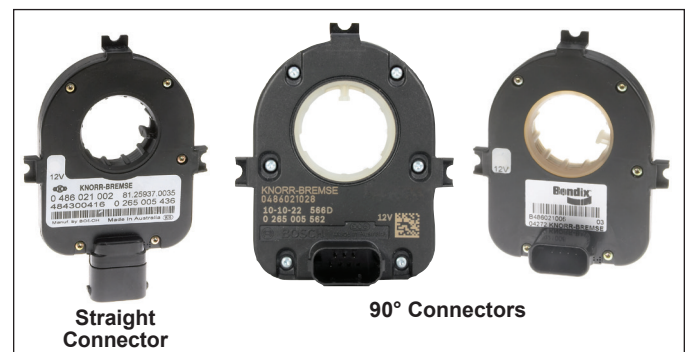

FIGURE 4 - EXAMPLES OF STEERING ANGLE SENSORS
- A Bendix® SAS-60™ Steering Angle Sensor (mounted to the steering column - *See Figure 4*)
The Bendix SAS-70X sensor is available with two different styles of wire harness connectors. (See Figure 4.)